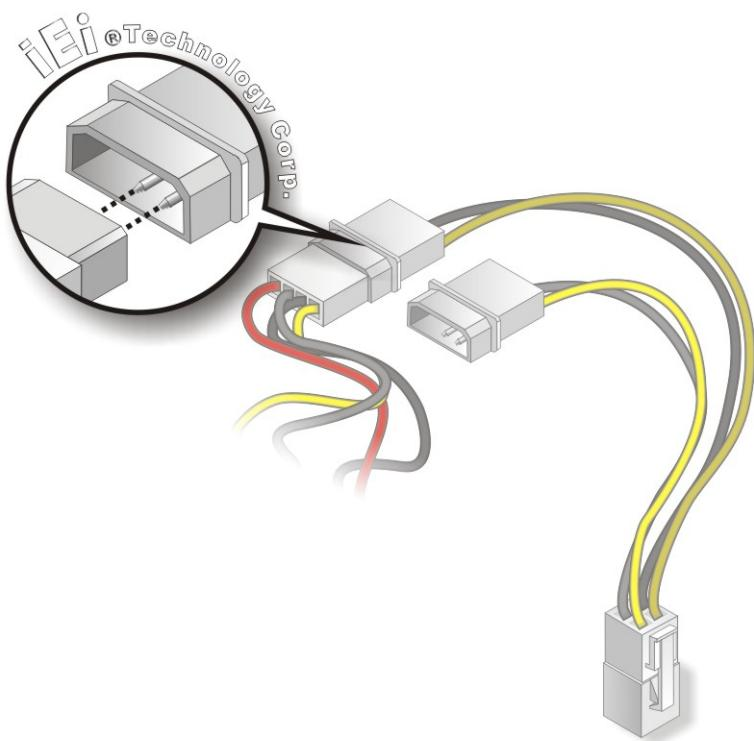

Figure 4-14: Connect Power Cable to Power Supply
Step 7: Connect Power Cable to Power Supply. Connect one of the 4-pin (1x4) Molex type power cable connectors to an AT/ATX power supply. See Figure 4-14.